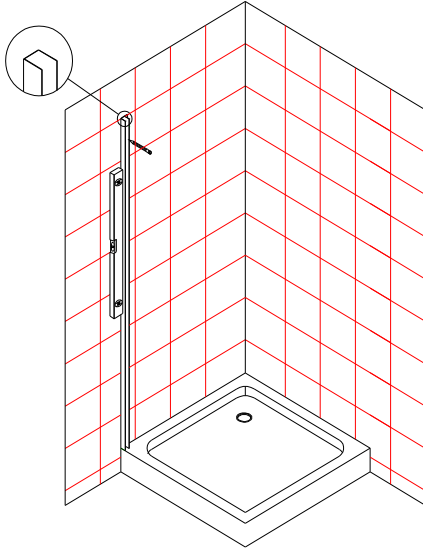

Figure 1
2. Put the wall profiles (3) against the wall, ensuring the distance between the profile and the wall is 780 or 880 mm is (corner entry size 800/900). Adjust the profile to make sure it is vertical by using a spirit level. Mark the holes on the wall, as shown in figure 1.